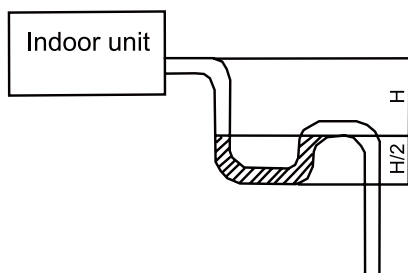

Figure 3-1-52
- (4). When the drain hose cannot keep a sufficient gradient, it is necessary to fit a riser pipe (field supplied) to it.
(5). If the air flow of indoor unit is high, this might cause negative pressure and result in return suction of outdoor air. Therefore, U-type water trap shall be designed on the drainage side of each indoor unit. (Figure 3-1-52)
- (6). Install one water trap for each unit.
- (7). Installation of water trap shall consider easy cleaning in the future.